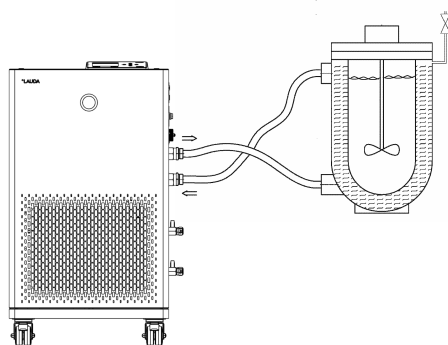

Fig. 28: Application with vent valve
- A vent valve Fig. 28 can significantly simplify the aeration process. For this purpose, periodically open the valve carefully and allow gas/air to escape until liquid escapes from the valve, and then close the vent valve again. Collect the liquid in a suitable container. Operate the valve again at regular intervals until no more air escapes.